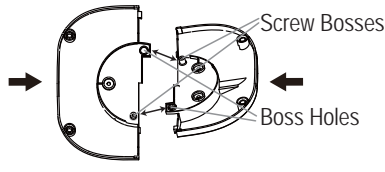

Figure 2
2. Align two screw bosses and boss holes on back of two halves of base according to Figure 2.